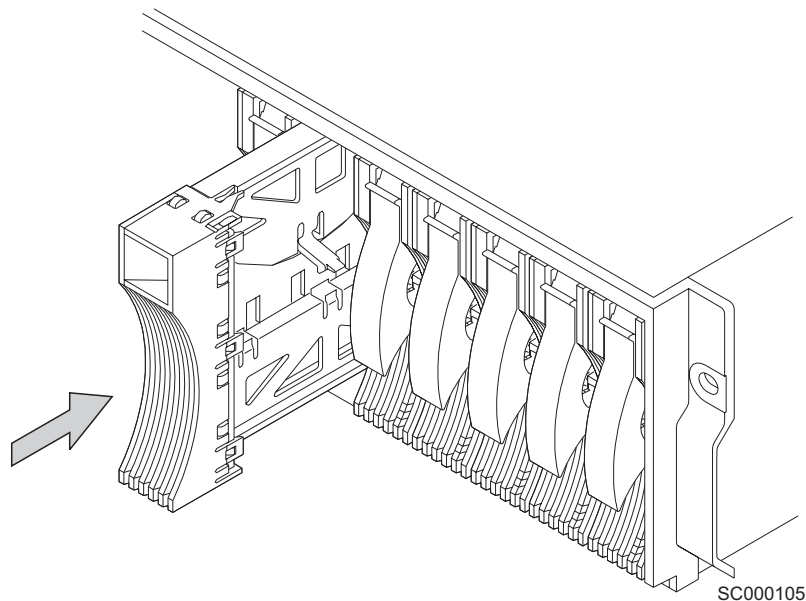

Figure 50. Installing a dummy disk drive module on a 2104 Model DS4.
3. Insert the dummy disk drive module into the slot and push it fully home, as Figure 50 shows.